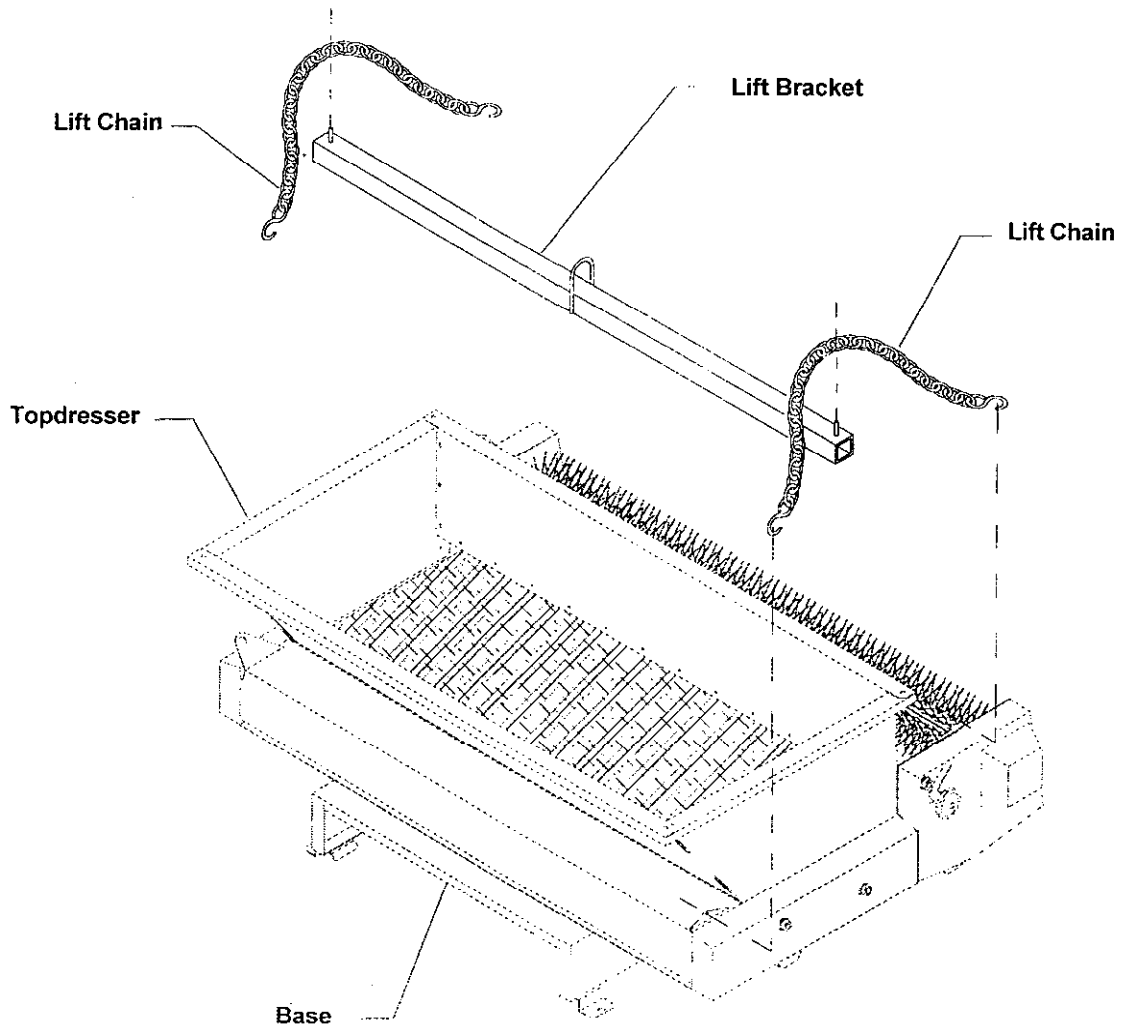

Figure 5
INSTALL OPTIONAL LIFT ASSEMBLY (Fig. 5)
2. Attach the chains as shown in Fig. 5.